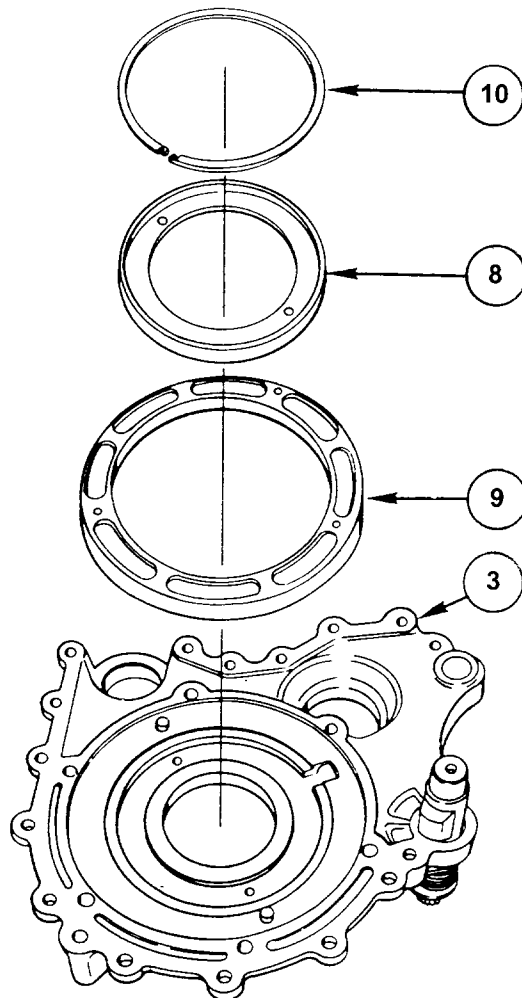

Figure 4. Left Brake Support.
7. Turn left brake support (3) over as shown in Figure 4.
8. Remove packing retainer (8) and stationary cam (9) from left brake support (3).
9. Remove seal ring (10) from retainer (8). Discard seal ring (10).